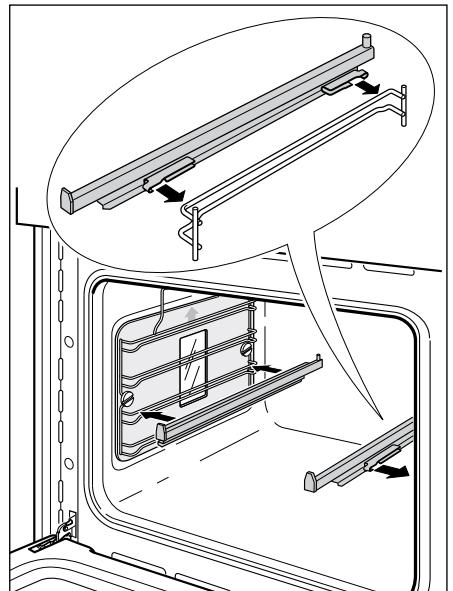

Fig.39 Refitting the sliding shelf supports
- 2 Fit the sliding shelf support onto the top wire of a rack and press (Fig. 39). You will hear a click as the safety locks clip over the wire.
- *the slides so that they run out towards the oven door, as shown in Fig. 39.*